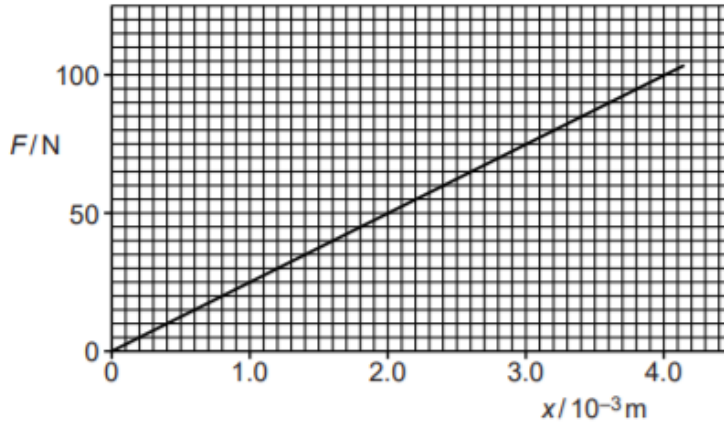

Fig. 8.1
A sample of wire is tested in the laboratory. Fig. 8.1 shows the force, F against extension, x graph for this wire.
- (d) The test is repeated for another wire made from the same material, having the same length but **half** the diameter. Explain how the force against extension graph for this wire will differ from the graph of Fig. 8.1.